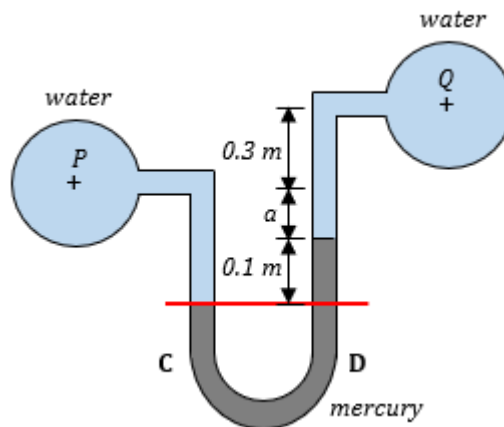

Figure 6
12. A differential manometer as shown in figure 6 is connected to pipe P and Q that flowing water. Determine the differential pressure between the two pipes.